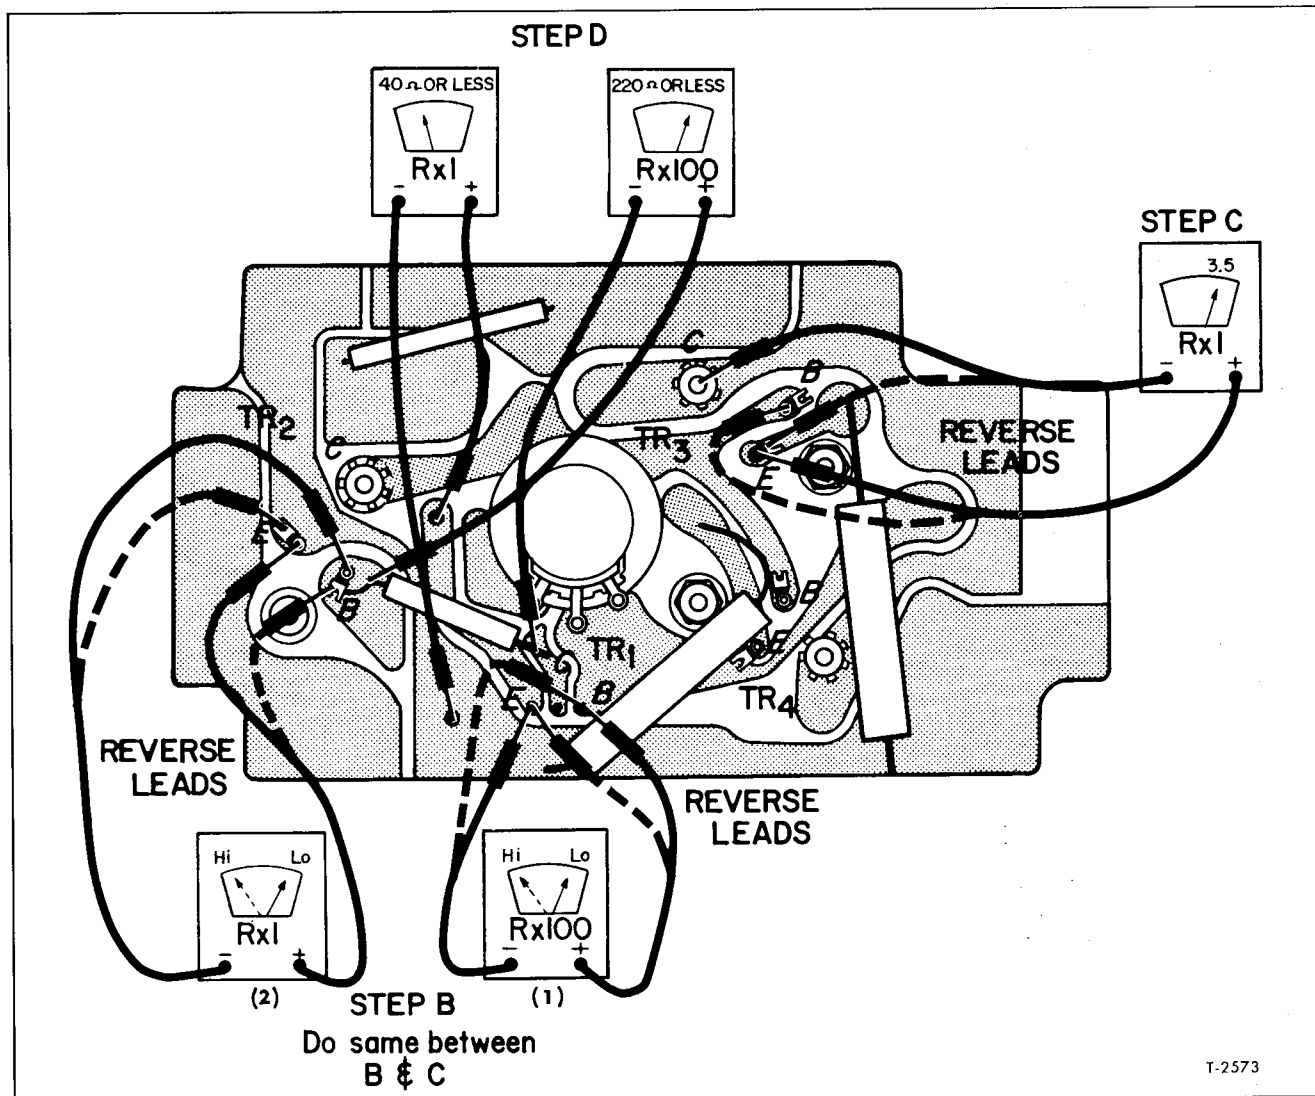

Figure 11—Test Set-Up When Pump Motor Will Not Shut-Off
(1) To check TR1, use an ohmmeter as in figure 11, step B2, to measure the resistance between E and B. First put the positive lead on B and the negative on E; the ohmmeter should in-
(2) To check TR2, use an ohmmeter set on RX1 scale as in Figure 11, step B1, to measure the resistance between E and B. First put the positive lead on B and the negative lead on E. The ohmmeter should indicate 10 ohms or less. Reverse leads; the indication on meter should be at least 10 times more. If these indications are not attained, TR2 is open and should be replaced.
c. If either TR3 or TR4 is shorted, they will cause motor to run continuously. To check this, connect an ohmmeter set on RX1 scale between C and C of TR3 as shown in figure 11, step c. Note reading. Reverse leads and note reading;
d. If either R2 or R7 is open, this could also cause the motor to run constantly. To check this, measure as shown in figure 11, step d. With ohmmeter scale set on RX1, measure resistance of R2; ohmmeter should indicate slightly less than 40 ohms. With ohmmeter scale set at RX100, measure resistance of R7; ohmmeter should indicate slightly less than 220 ohms. If resistance of R2 or R7 should be appreciatively less than value called for, replace as necessary.